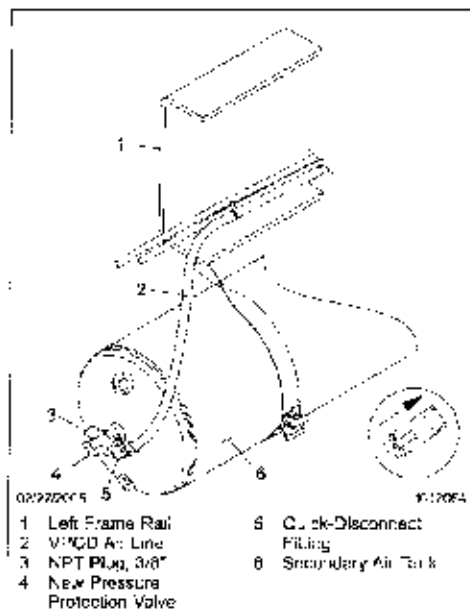

Fig. 3, New Location for VPOD Air Line
- 13 Loosen a suitable length of the VPOD air supply line and connect it to the new pressure protection valve. See Fig. 3.